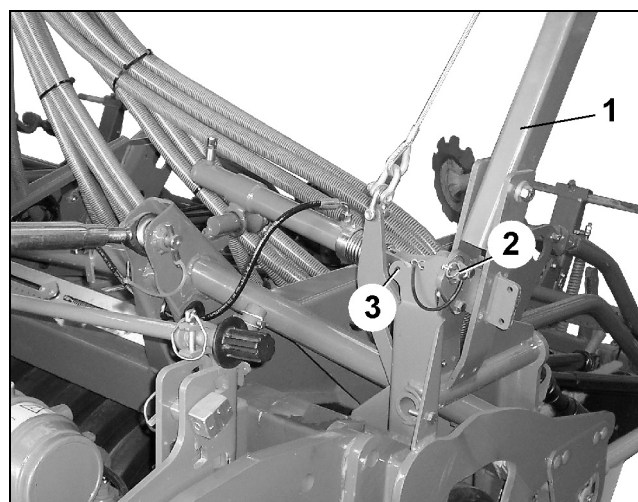

Fig. 98
- hold track marker arm (Fig. 98/1) and remove the clip pin (Fig. 98/2) (necessary for transport)
- when not needed, insert the clip pin into one of the holes of the link (Fig. 98/3)
After removal of the clip pin (Fig. 98/2) the marker arm is tilting slightly to the side.